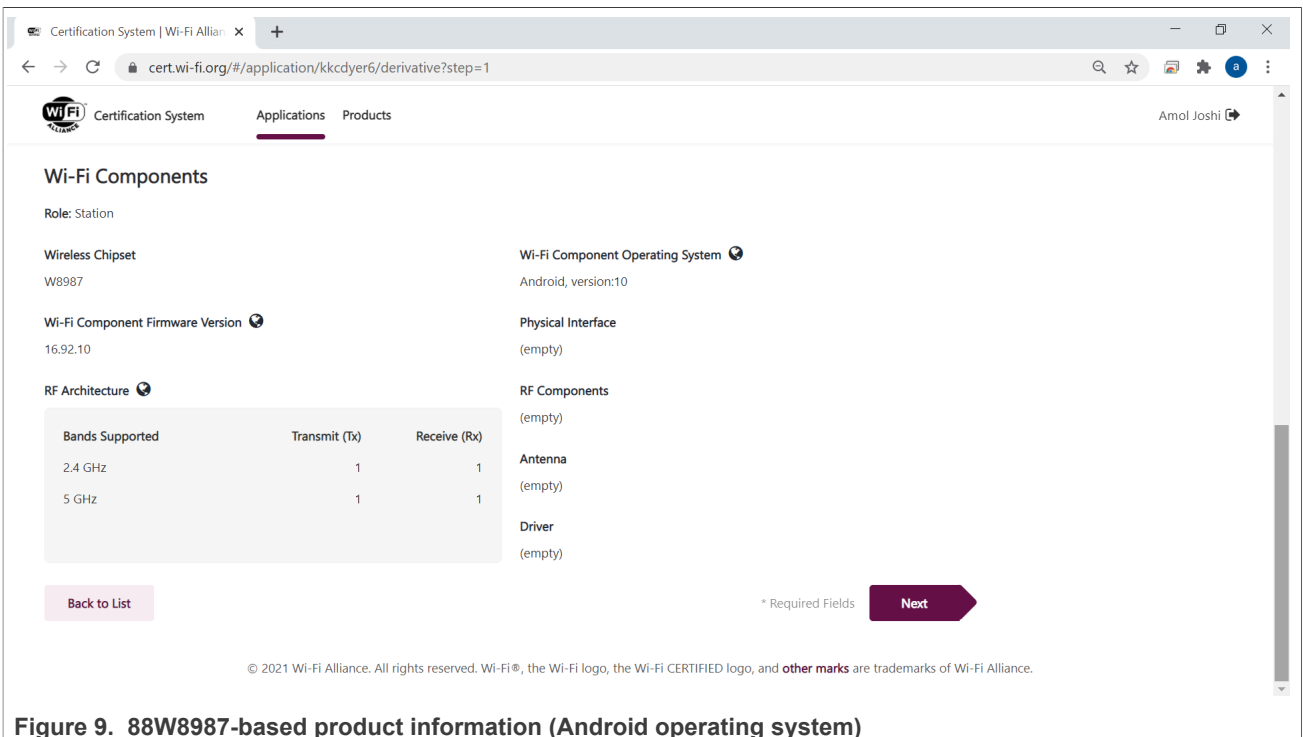

Figure 9. 88W8987-based product information (Android operating system)
- Figure 9 shows the Wi-Fi component details for a product based on 88W8987-based product and Android OS.